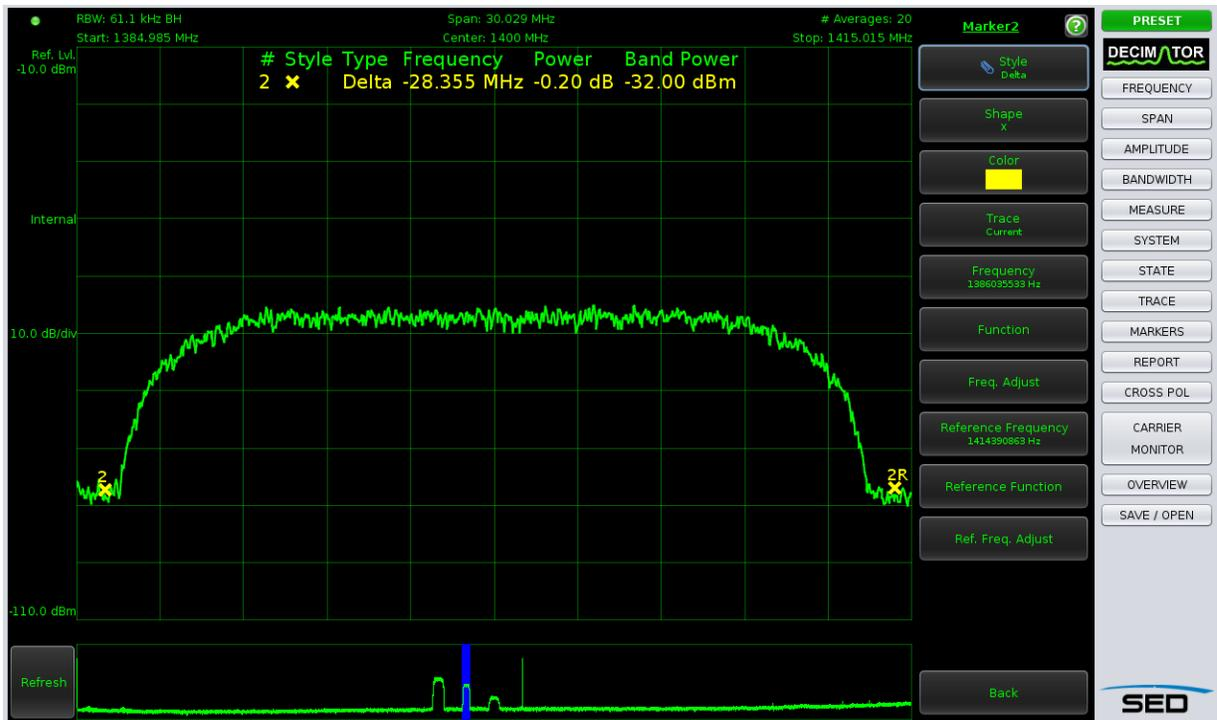

Figure 11 Modulated Carrier with Delta Markers
- Before adding our first measurement, let's get some help computing the Band Power for the modulated carrier. We will use a Delta marker to help us do this. Click the MARKERS button, then Marker 2, click the Style menu item and select Delta. Drag the markers around with the mouse to separate them, one on each edge of the carrier. The Band Power shown in Figure 11 in the Marker Legend is the total power in the carrier. We can use -32.00 dBm for our Nominal Power in this case.